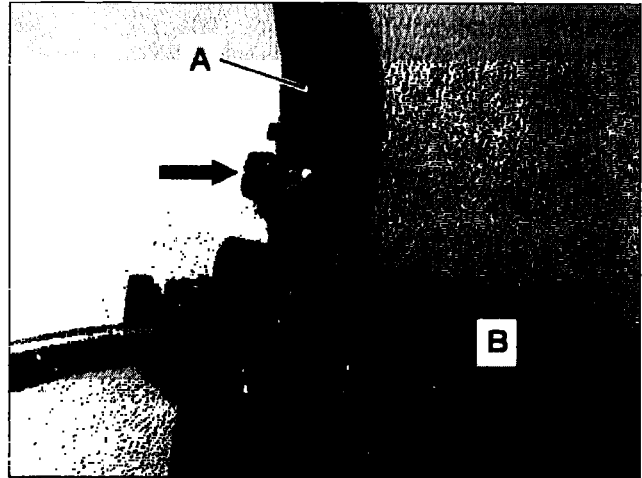

Figure 6
5. Remove cable tie (arrow, Figure 6) securing SBC wire harness (A) to SBC connector housing (B).